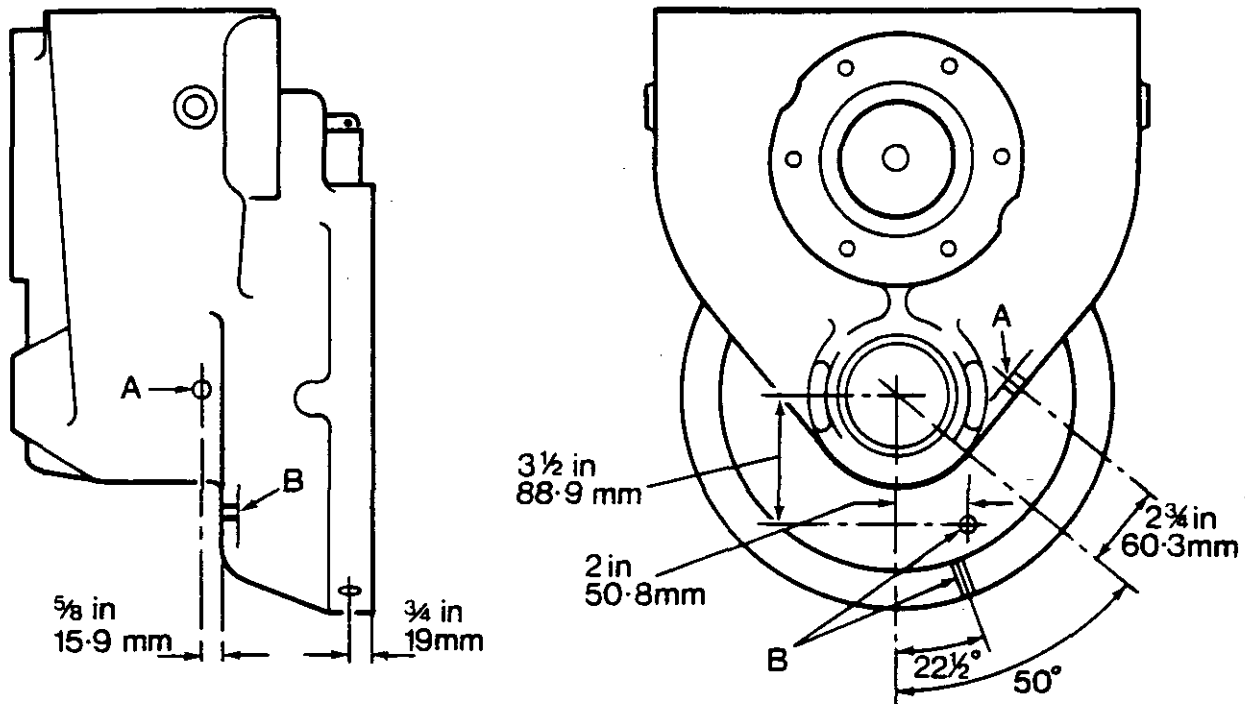

FIGURE 4. POSITION OF HOLES IN THE REDUCTION CASES
2. Make new holes for the breather and breather pipe as shown in Fig. 4.